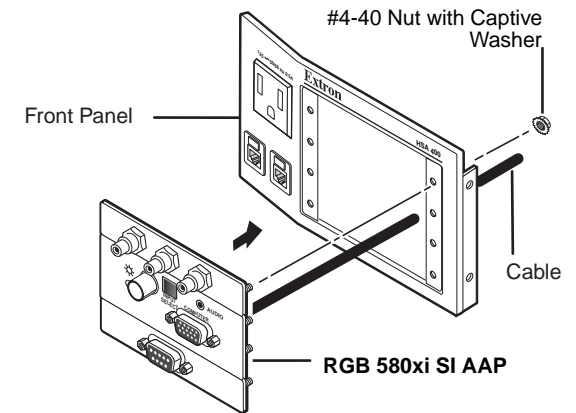

Figure B-2 — Removing an AAP device
3. Remove any AAPs by unscrewing the nuts on the rear of the panel that fasten the plates to the faceplate (figure B-2).